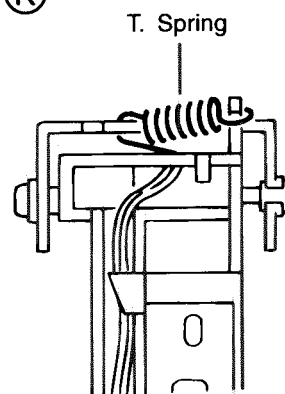

Fig. 5
4. Pull out the H. shaft from the side on which there is no T. spring. (See Fig. 5)